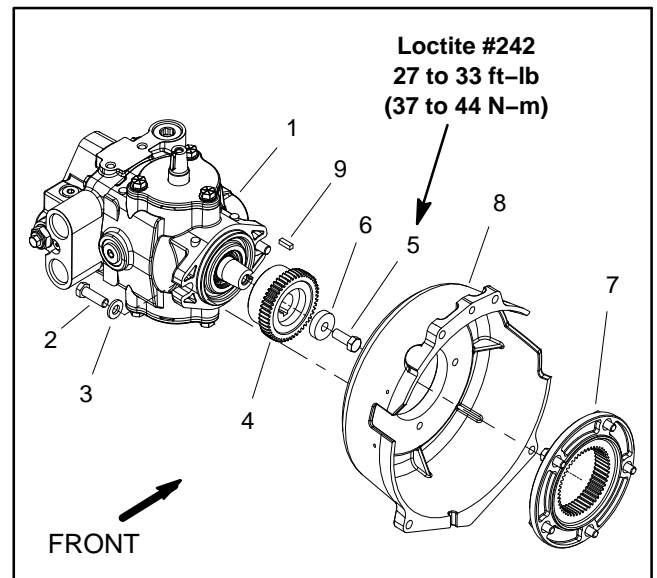

Figure 16
13. Slowly move the engine assembly away from the hydraulic pump assembly to allow the pump coupling to slide out of the engine coupling flange (Fig. 16). Once the engine has cleared the pump coupling, carefully remove the engine from the machine.
14. If necessary, remove engine support (item 23) from engine.
5. Slowly move the engine assembly toward the hydraulic pump assembly to allow the pump coupling to slide into the engine coupling flange (Fig. 16).
6. Secure hydraulic pump assembly to bell housing on engine with two (2) cap screws and flat washers (Fig. 16).